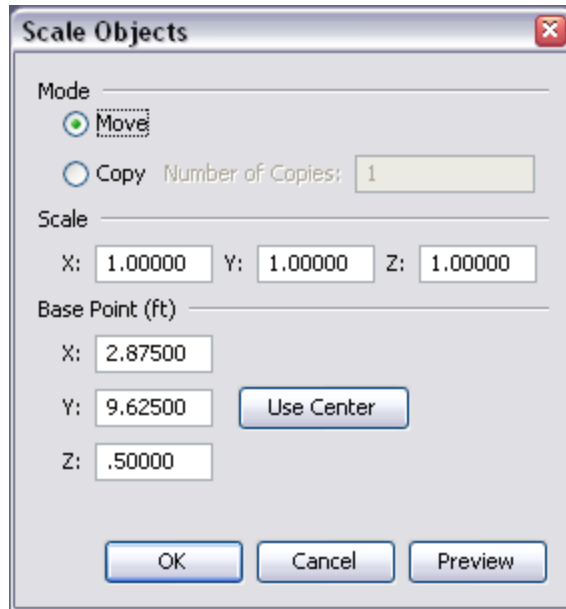

Figure 112. The scale dialog being used to scale an object
3. This will show the Scale dialog as in Figure 112.